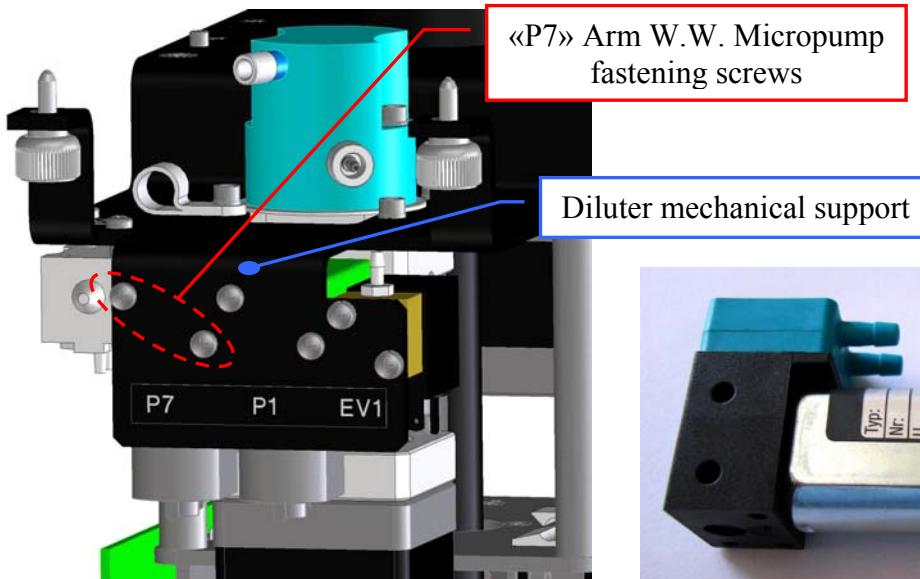

Fig. 39 – «P7» Arm Washing Well Micropump fastening screws
4. Unscrew the two fastening screws of the “P7” Arm Washing Well Micropump (Fig. 39) and take out it from the Diluter mechanical support.